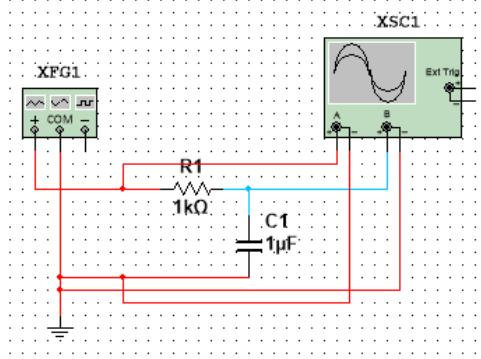

Figure 4.3: Lab #4 RC Simulation
- Simulate the circuit in Figure 4.3. Record three to four cycles of both the input and output. Refer to Appendix A.4.5 for information on how to change wire colors, and Appendix A.6 for information on how to present the results. The function generator should have the following settings:
A. Construct Figure 4.3 on the breadboard. Use the wavegen tool from the AD2 as the function generator, and use the same settings as used in Section 4.2: